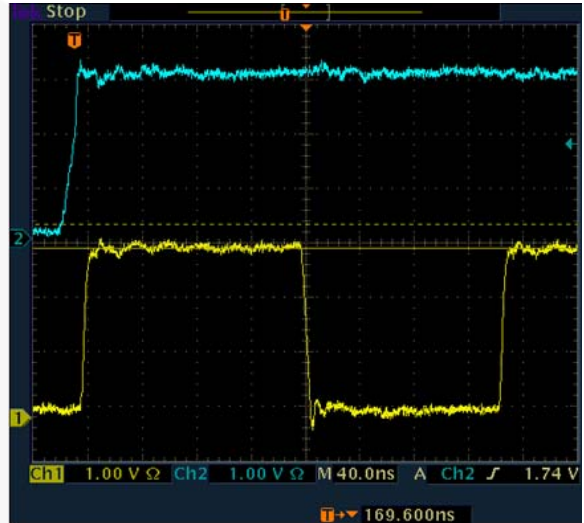

Figure 14. Scope Shot of I/O and Clock Signals
Due to open-drain technology, hosts and SIM cards do not use push-pull drivers on the I/O pin. Logic LOWs are pulled down ( $I_{sink}$ ), while logic HIGHs are “let go” (3-state). During a logic LOW on the I/O pin, both series NpassGates are turned on and act like a very low resistive short between the host and the SIM card. When the host or card lets go of a previously held LOW on the I/O pin, the rise time is largely determined by the RC time constant, where R is the external pull-up resistor and C is the I/O signal trace capacitance. The value of  $R_{PU}$  is to be chosen to not exceed 1 mA maximum  $I_{OL}$  per IOS7816-3 compliance testing. The FXLA2204 acts as a very low resistive short between the host and SIM card (during a LOW) until either of the port’s  $V_{CC/2}$  thresholds are reached. After the RC time constant has reached the  $V_{CC/2}$  threshold of either port, the port’s edge detector triggers both dynamic drivers to drive their respective ports in the LOW-to-HIGH (LH) direction, accelerating the rising edge. The resulting rise time resembles the CH2 waveform (blue) of Figure 14. Effectively, two distinct slew rates appear in the rise time. The first slew rate (slower) is the RC time constant of the I/O signal trace. The second slew rate (faster) is the dynamic driver accelerating edge.